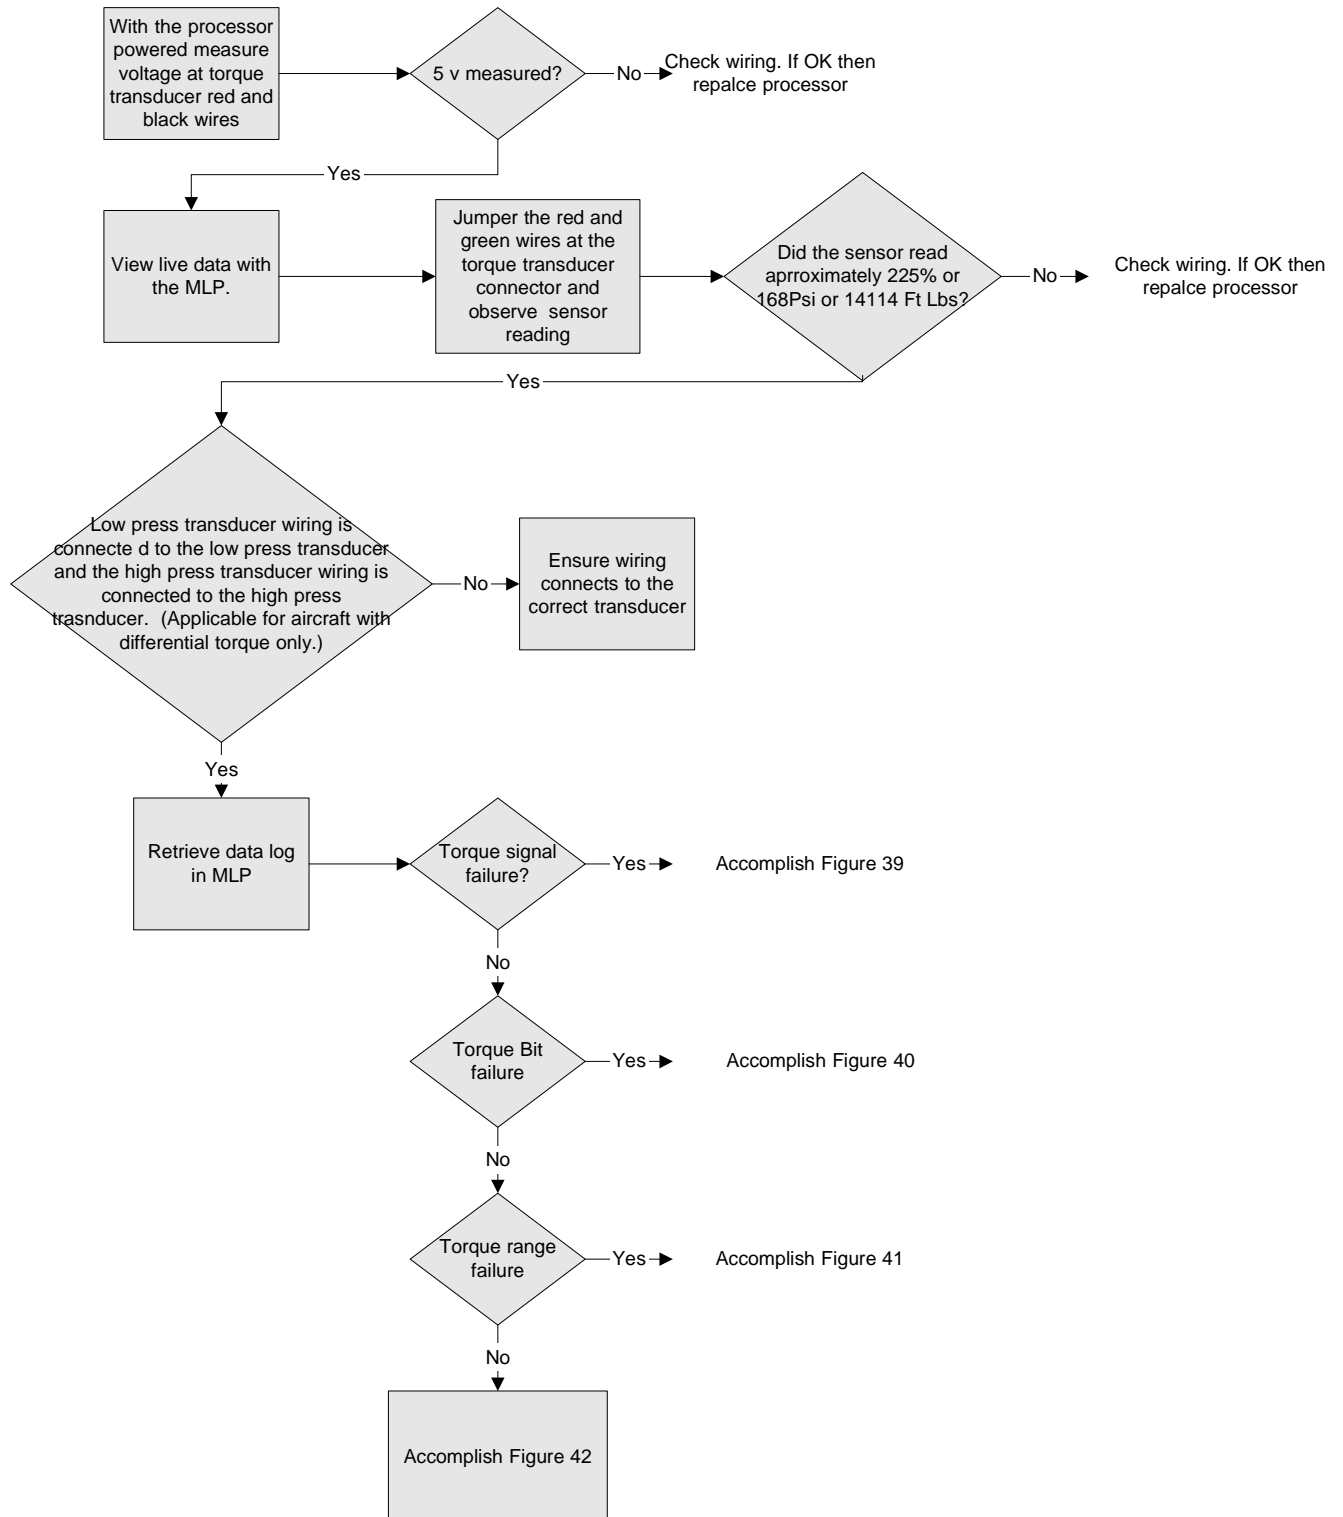

Figure 38: Torque Transducer Functional Test
- a. Transducer Functional Test – Refer to Figure 38